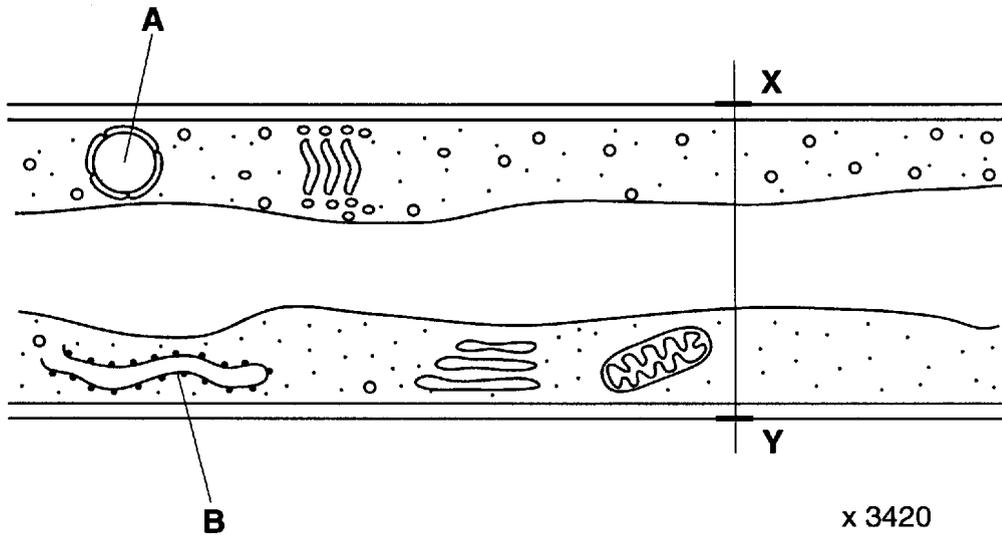

Fig. 5.1
- 5 (a) Fig. 5.1 shows a section through part of a filament of *Penicillium roquefortii* isolated from blue cheese.
- (i) Name the features labelled **A** and **B** in Fig. 5.1.
- (ii) Name **two** features **visible in Fig. 5.1** which show that this organism is eukaryotic. Do not include those features labelled **A** and **B**.